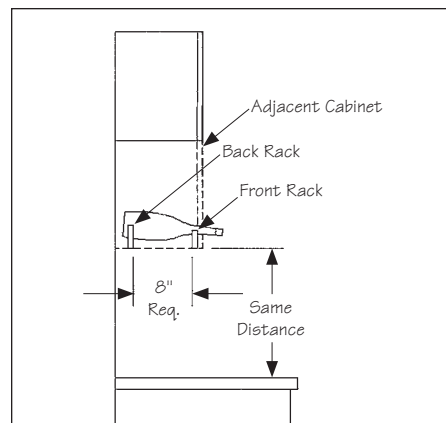

Figure 6
- Racks should be mounted with Front (smaller) rack in front and Back (larger) rack 8" (recommended) behind it. Bottom of each rack should be the same distance from the countertop. See Figure 6.